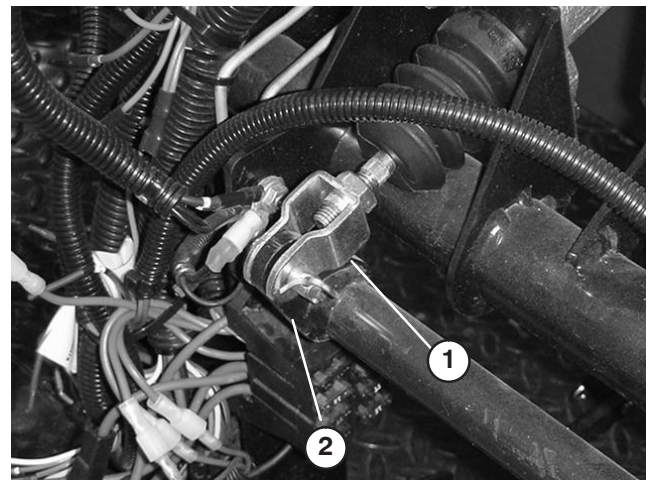

Figure 41
1. Remove cotter pin and clevis pin securing master cylinder yoke to brake pedal pivot (Fig. 41).
3. Loosen jam nuts securing yoke to master cylinder shaft (Fig. 41).